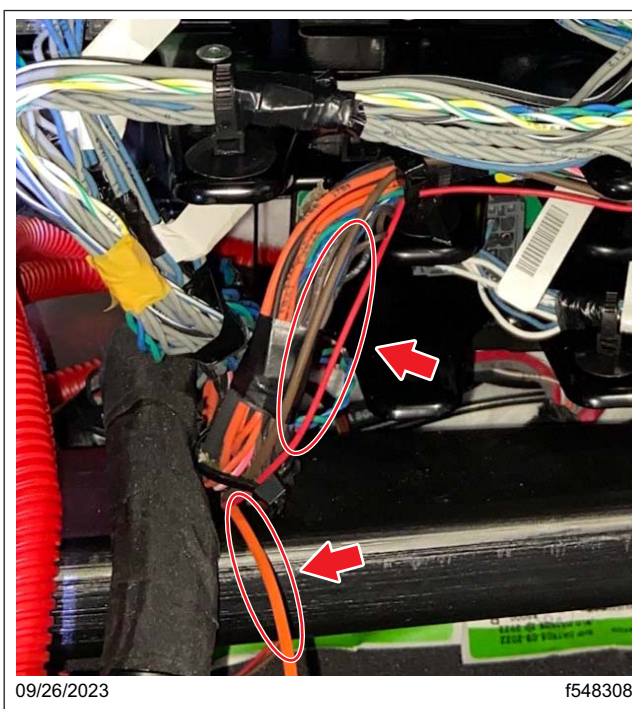

Fig. 40, Routing the Red, Brown, and Orange (or pink) Wires
- 12.7 Split the red and the brown wires off towards the XMC2. Route the orange (or pink) wire to the VPDM. See Fig. 40.